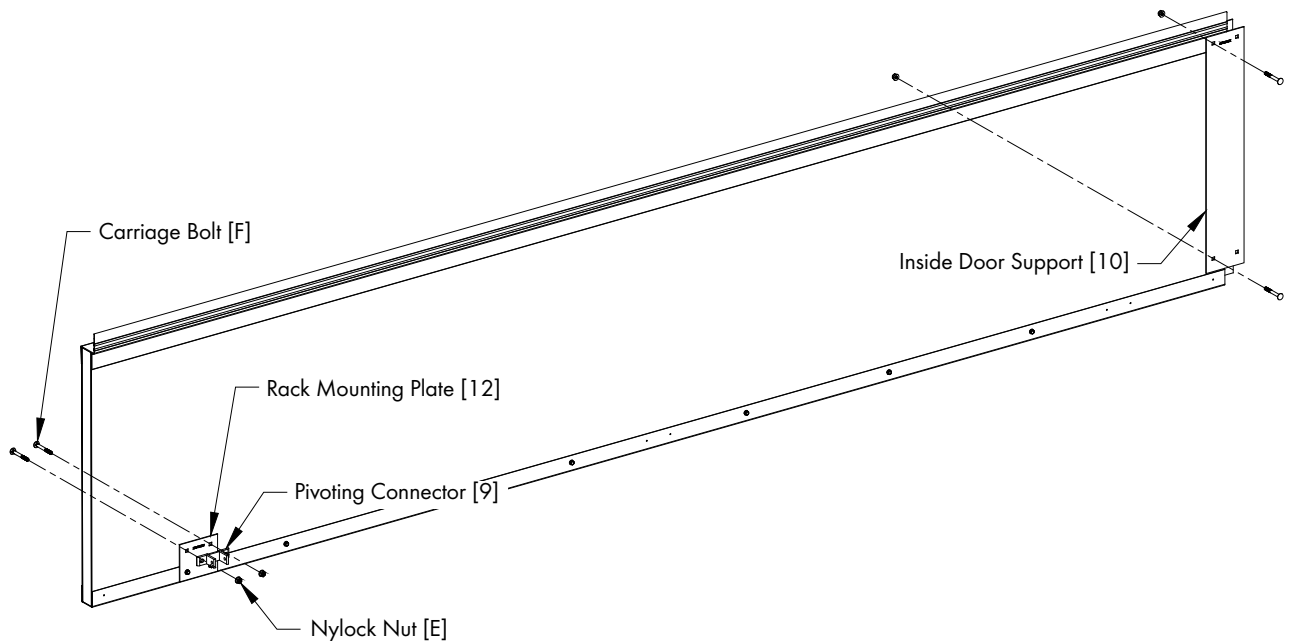

Figure 12
Fasten Inside Door Support [10] to back of CSI24 Door in line with Outside Door Support [11] using (2) Carriage Bolts [F] and Nylock Nuts [E] with the Carriage Bolts on the Hinge side of the door. See Figure 12. Secure the Pivoting Connector [9] to the Pair of holes in Rack Mounting Plate on Hinge Side using (2) Carriage Bolts [F] and Nylock Nuts [E], with the Nuts on the Pivoting Connector. See Figure 12.